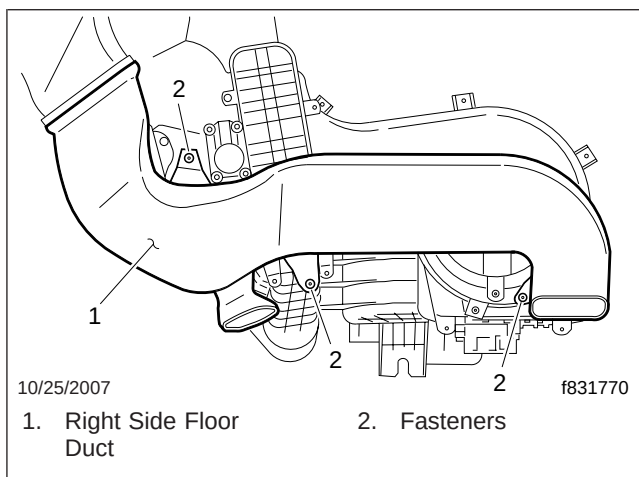

Fig. 7, Right Side Floor Duct Removal
14. Remove the right side floor duct. See Fig. 7.